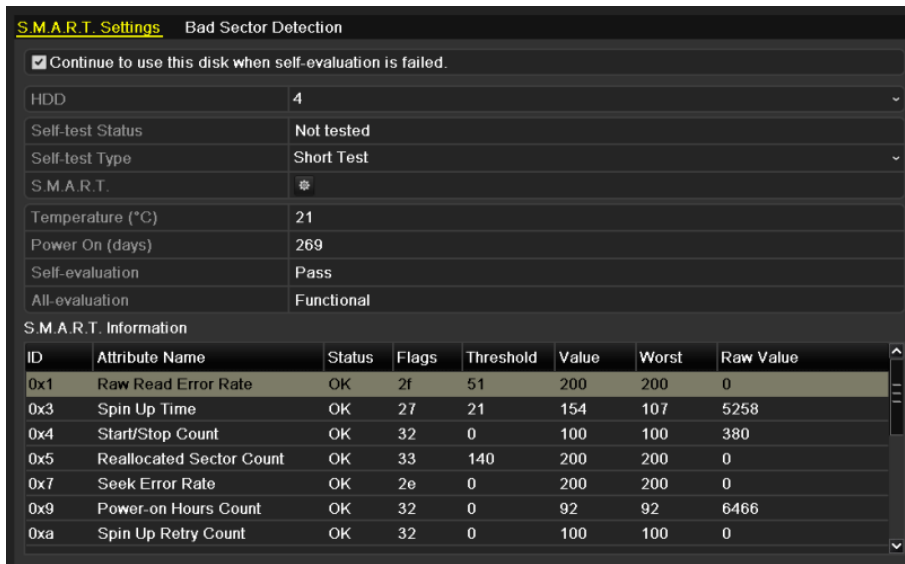

Figure 12-27 S.M.A.R.T Settings Interface
Step 2 Select the HDD to view its S.M.A.R.T information list, as shown in Figure 12-27.